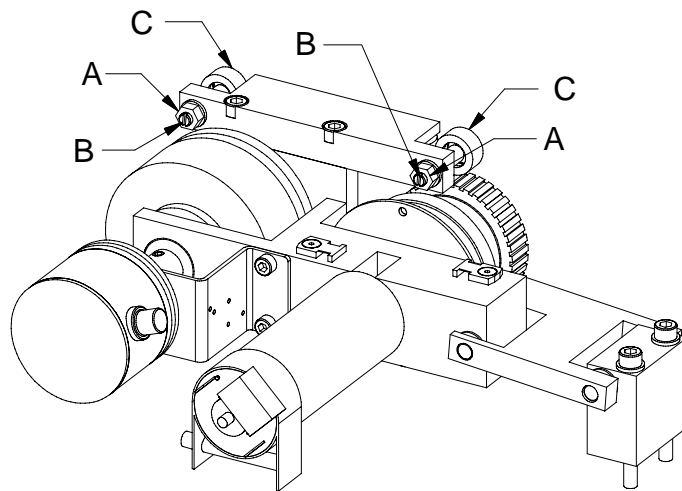

Fig. 5-110
1. To adjust the drive units loosen the nut (A).
2. Turn the eccentric bolts (B), see Fig. 5-110 .